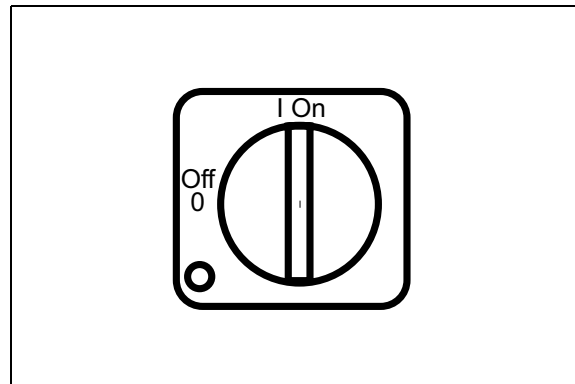

Figure 4-3: Control Switch
3. Turn the control switch to the "on" position (Figure 4-3). The control box door must be completely closed. The unit begins to power up. Powering up takes approximately 45 seconds. The following error message appears in the upper-left corner of the graphics display window: "Com Err Stn 1." This message will disappear when the controller has finished powering up.